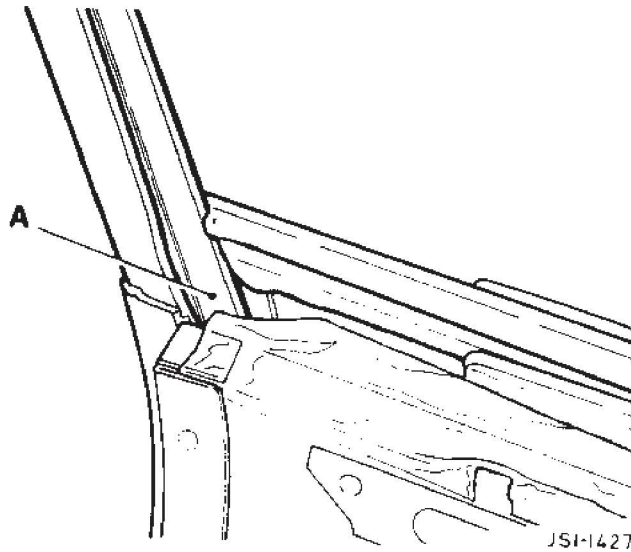

FIG 1
3. Place hands on either side (surface) of the door glass, then move the glass up and down. Refer to Fig 1, Point 'A'. The glass movement becomes restricted at this point as full contact is made between the glass and upper to lower guide channels. Close observation of the glass channel seal at the foul point 'A' will invariably show signs of pressure marking and wear.